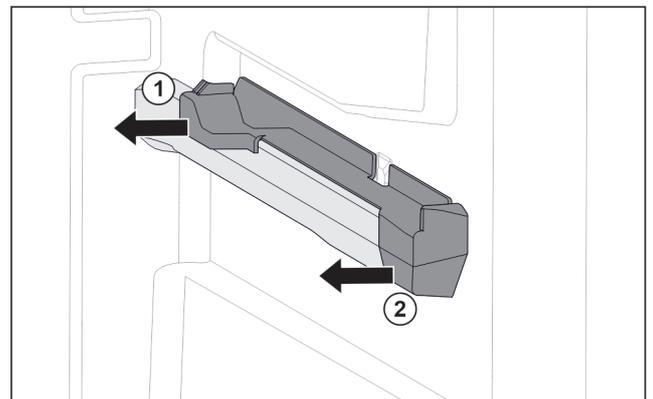

Fig. 107 Attachment on the right moulded rib
- ▶ Pull off attachment at the back sideways. *Fig. 107 (1)*
- ▶ Pull off attachment at the front sideways. *Fig. 107 (2)*